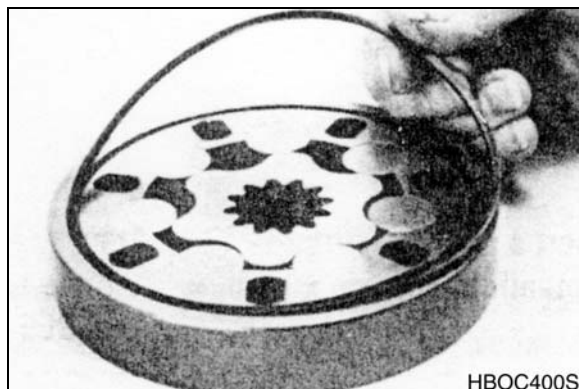

Figure 55
13. Apply a small amount of clean grease to a new seal ring (4) and assemble it into the seal ring groove on the wear plate side of the rotor set stator (8B). See Figure 55.